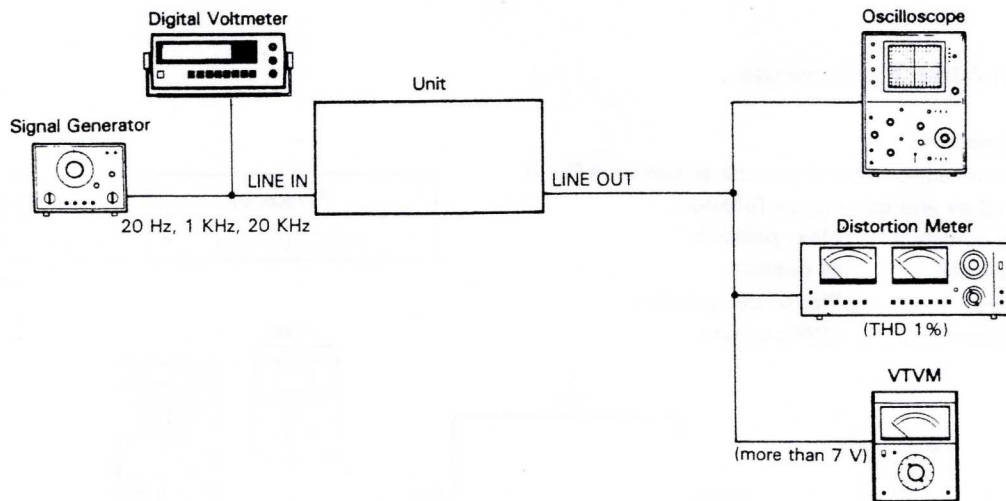

Fig. 5
1. Connect the test equipment to the unit as shown in fig. 5.